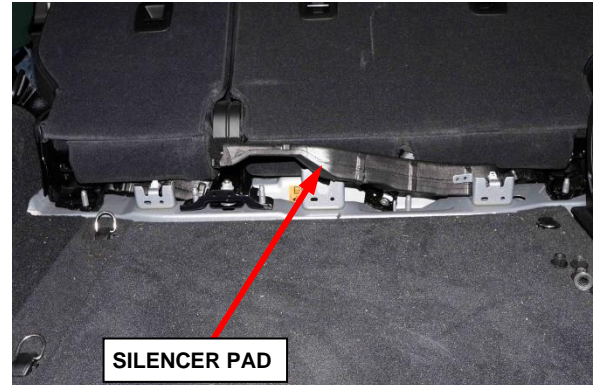

Figure 33 – Silencer Pad
- 35. Remove silencer pad (Figure 33).
32. Install the silencer pad (Figure 33).